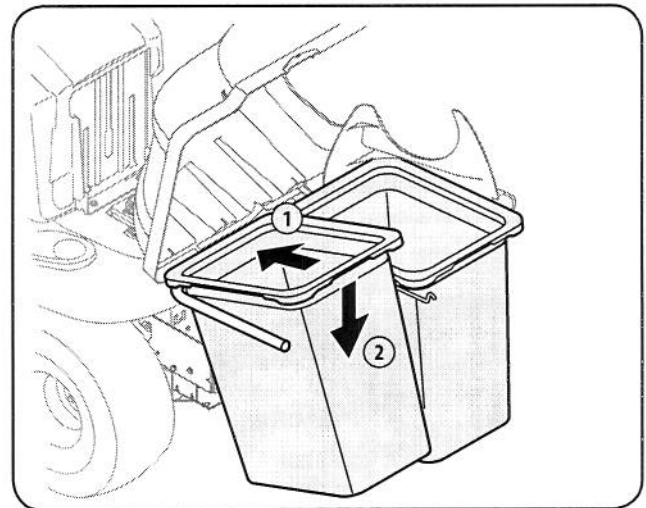

Figure 4-19
- Install both grass bags onto the bag support assembly by inserting the front edge in first (1), as seen in Fig. 4-19, and setting the back edge down (2) until it fits into the assembly.